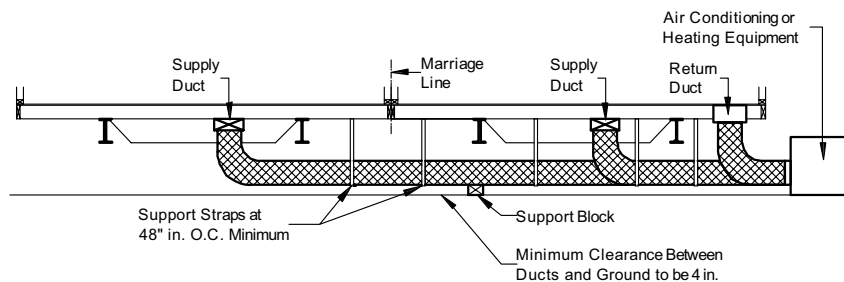

Figure 89. Ducts connecting exterior heating and/or cooling equipment to the home
2. **Install ducts.** Install the appropriate supply and return ducts (not provided) between the remote unit and the home (**Figure 89**), making connections according to the instructions for crossover ducts in **Crossover Connections** (p. 52).
Prepare the whole-house ventilation system according to the ventilation system manufacturer's instructions. Confirm that any fresh air intake ducts extend to the exterior and do not draw air from the crawlspace under the home. Do not allow any fresh air ventilation intake ducts to become kinked or restricted, forming a trap (**Figure 89**).